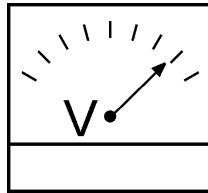
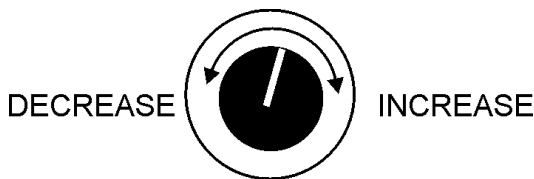

Figure 47. Voltmeter
Figure 48. Voltage Adjust Control Knob
12. The generator's AC-voltmeter (Figure 47) will display the generator's output in **VOLTS**. If the voltage is not within the specified tolerance, use the voltage adjustment control knob (Figure 48) to increase or decrease the desired voltage.